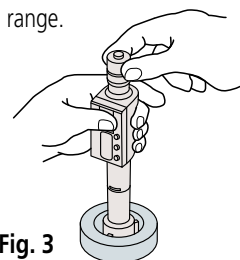

Fig. 3
1. To apply measuring force, bring the measuring face into light contact with the workpiece and hold there. Then rotate the ratchet 5 to 6 times (giving 2 to 3 turns) to apply constant force. (Fig. 3)